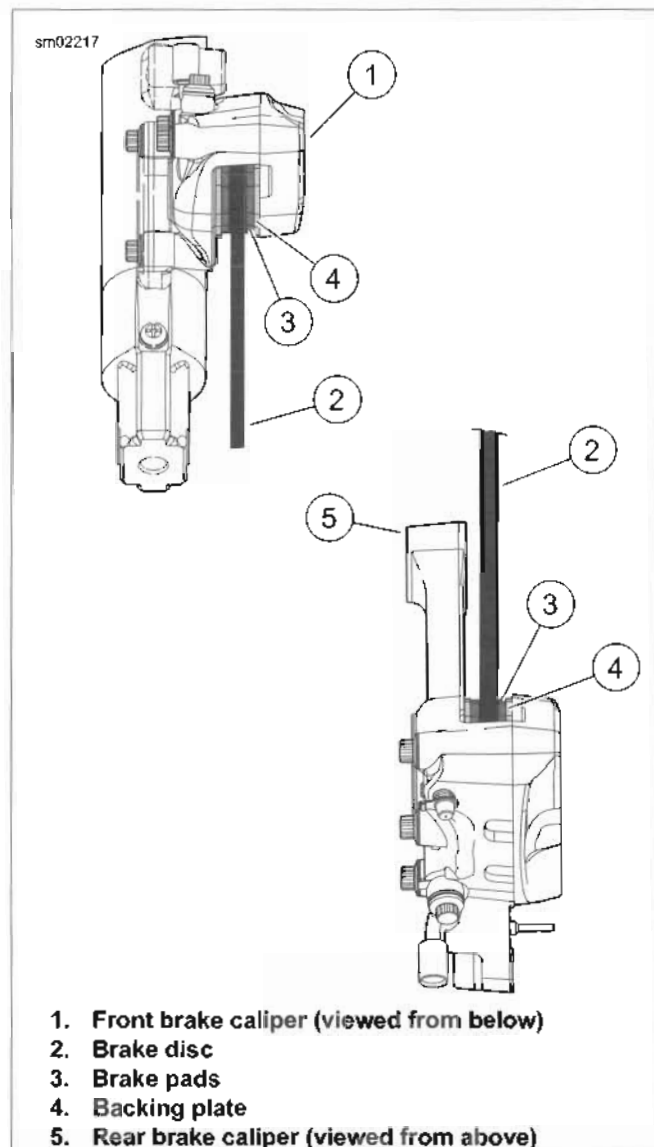

Figure 1-31. Brake Pad Inspection
See Figure 1-31. Replace brake pads (3) if brake pad friction material on either the front or rear caliper is worn to 0.04 in. (1.02 mm) or less above the backing plate (4). Always replace both pads in a caliper as a set. See 1.16 BRAKE PADS AND DISCS, Brake Pad Replacement.